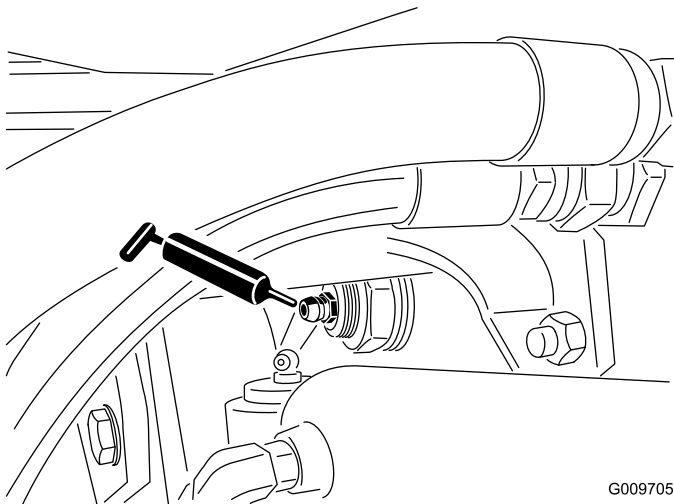

Figure 33
- Rear-axle-pivot bushings (2) as shown in Figure 33